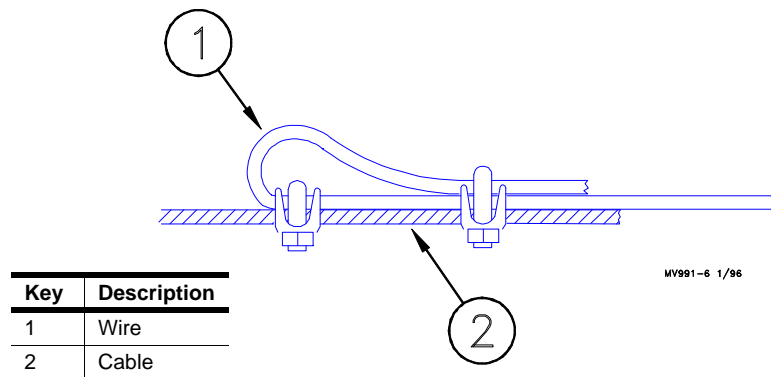

Figure 4. Cable/Wire Installation
6. On the bottom side of the circuit attach a come-a-long to the wire and the Maxidrive base. Stretch the wire until it is tight and fasten to the cable attached to the drum on the Maxidrive. See **Figure 4**. The wire should be tight enough so there are no sags.